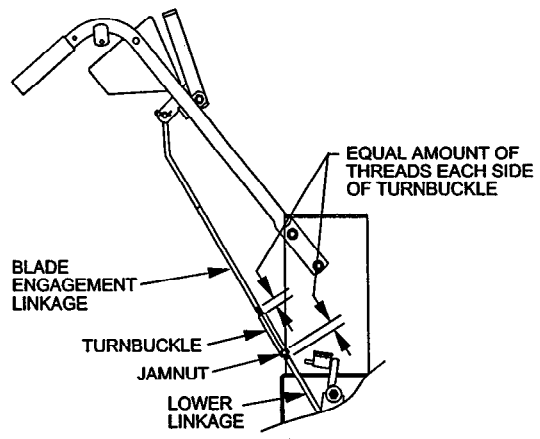

FIG 5
3.9 Connect the blade engagement linkages. Loosen jamnut and remove turnbuckle from lower linkage. Screw turnbuckle onto both upper and lower linkages simultaneously. (See figure 5) Note that the threads on upper linkage are left hand. See 5.2.2 for linkage adjustment.